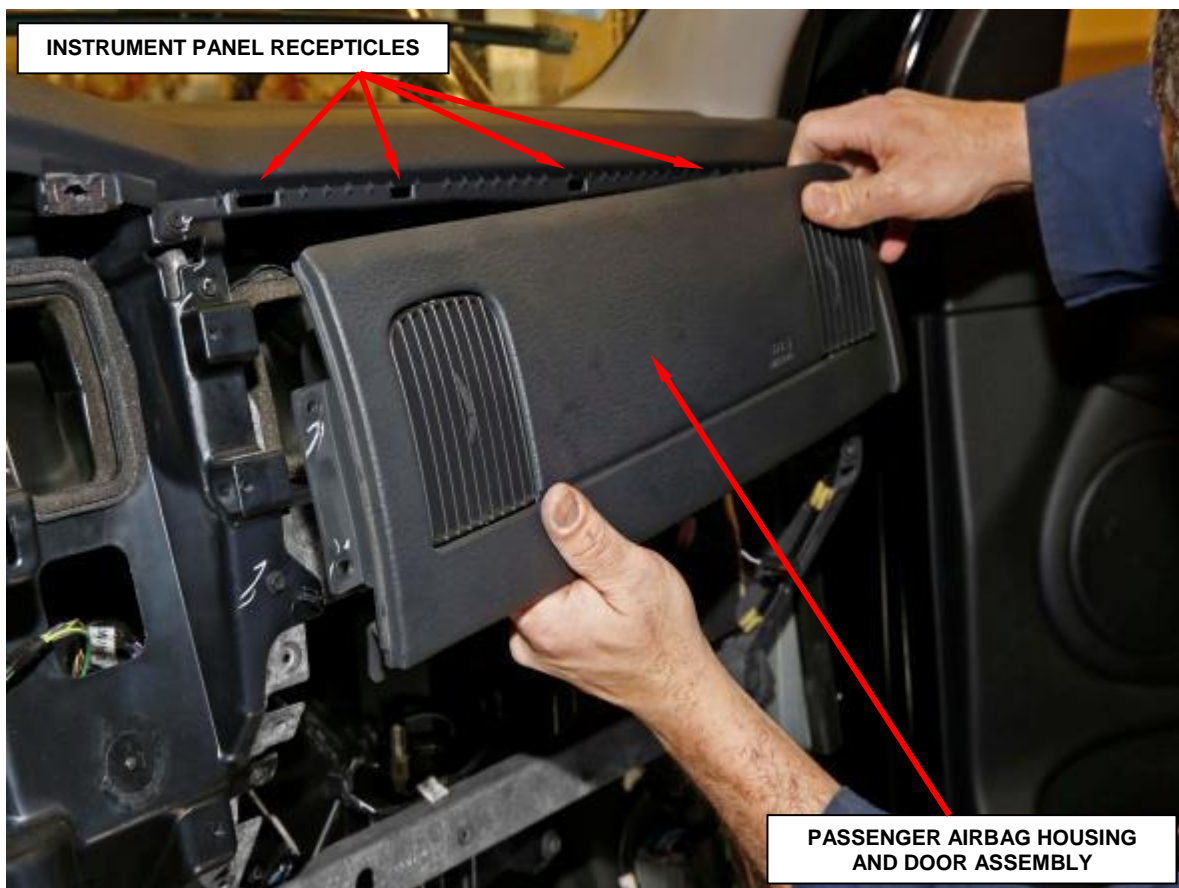

Figure 16 – Passenger Airbag Housing and Door Unit
15. Using a trim stick or another suitable wide flat-bladed tool, gently pry the upper and outboard edges of the passenger airbag door away from the instrument panel far enough to disengage the seven snap features on the door from the receptacles in the instrument panel base trim (Figure 16).
16. Pull the passenger airbag housing and door assembly straight back from the instrument panel far enough to access the instrument panel wire harness take out and connector for the airbag located on the inboard side of the airbag assembly (Figure 16).